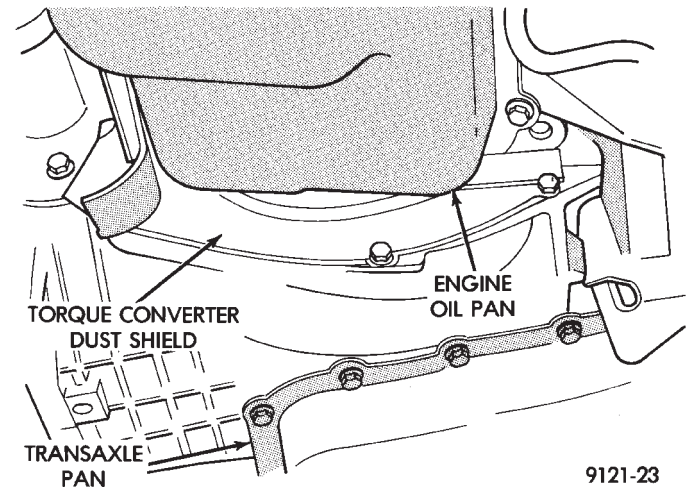

Fig. 3 Remove Torque Converter Dust Shield
(8) Remove torque converter dust shield to gain access to torque converter bolts (Fig. 3).